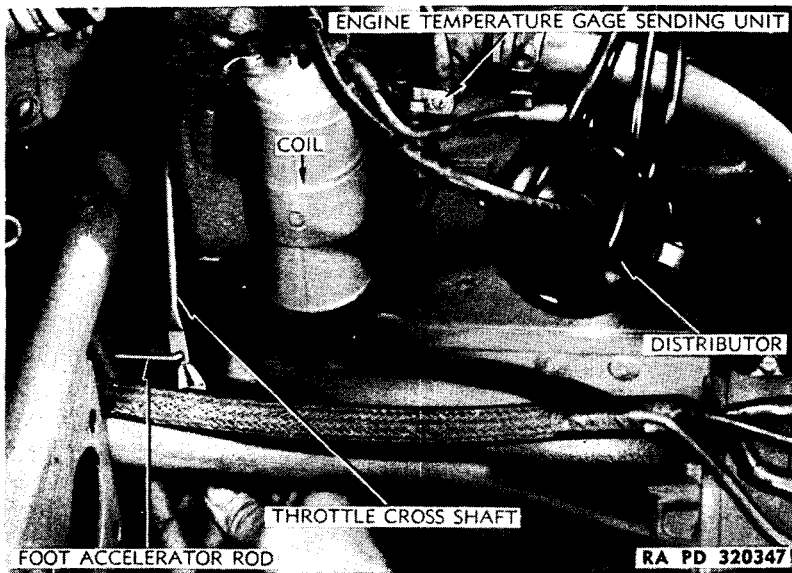
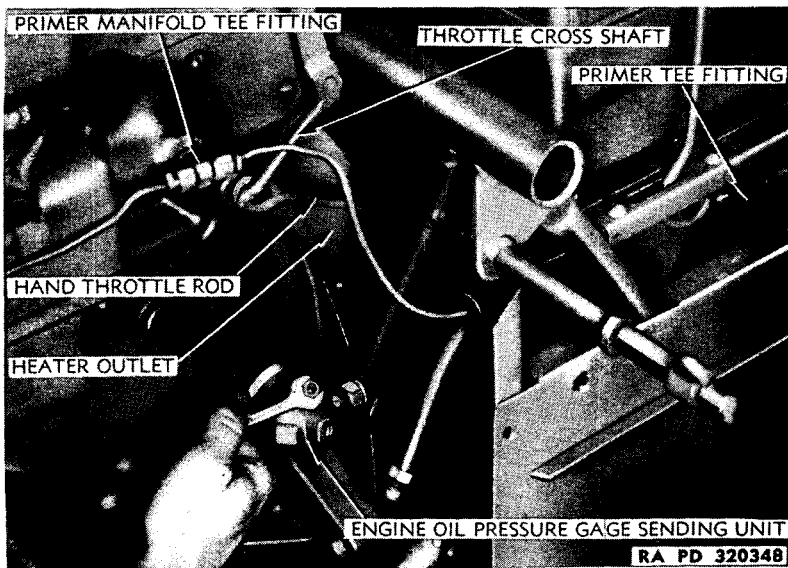
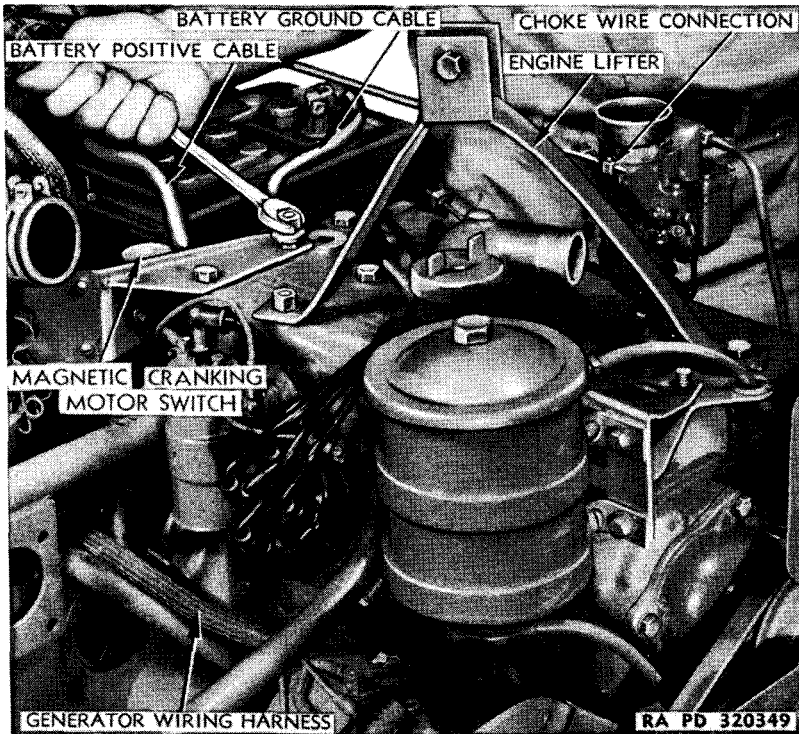

Figure 46—Disconnecting Accelerator Rod
Figure 47—Disconnecting Oil Gage Wire
Figure 48—Disconnecting Battery Ground Cable
b. **Disconnect Throttle Controls, Wires, and Lines.** Disconnect foot accelerator rod from throttle cross shaft at right rear corner of engine by removing cotter pin and flat washer (fig. 46). Disconnect hand throttle rod from throttle cross shaft arm by removing cotter pin and flat washer on left side of engine (fig. 47). Disconnect fuel line at primer tee fitting under battery support and at fuel pump. Push line back into driver's compartment out of the way (fig. 47). Disconnect oil pressure gage wire from sending unit on left side of engine (fig. 47). Disconnect one wire from ignition coil (fig. 46), one wire from engine temperature gage sending unit (fig. 46), and battery ground cable from cylinder head rear stud (fig. 48). Disconnect positive battery cable at battery post, and four wires from generator (fig. 48). Disconnect primer line from tee fitting on intake manifold. Disconnect choke assembly from carburetor by loosening two clamp screws. Disconnect carburetor air intake pipe at each end of large hose, and remove hose. Remove cylinder head nuts holding headlight wire loom brackets, and lay loom assembly back on cowl. Loosen two bolts on air cleaner arm